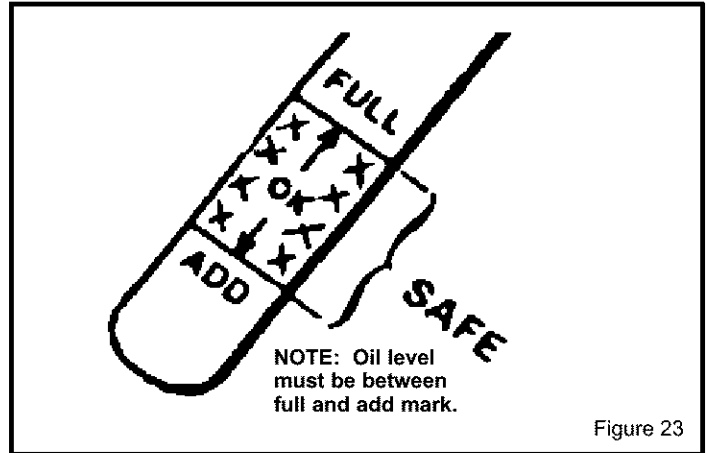

Figure 23
**Check Crankcase Oil Level** before starting engine and after each 5 hours of continuous use (see Figure 23). Add proper motor oil as required.
**Change Oil** every 25 hours of operation or at least once a year, even if the snow blower is not used for twenty-five hours. Use a clean, high quality detergent oil. Fill the crank case to FULL line on dipstick (see Figure 23). Be sure original container is marked: A.P.I. service "SF" or higher. Do not use SAE10W40 oil (as it may not provide proper lubrication). See Chart for oil recommendations.